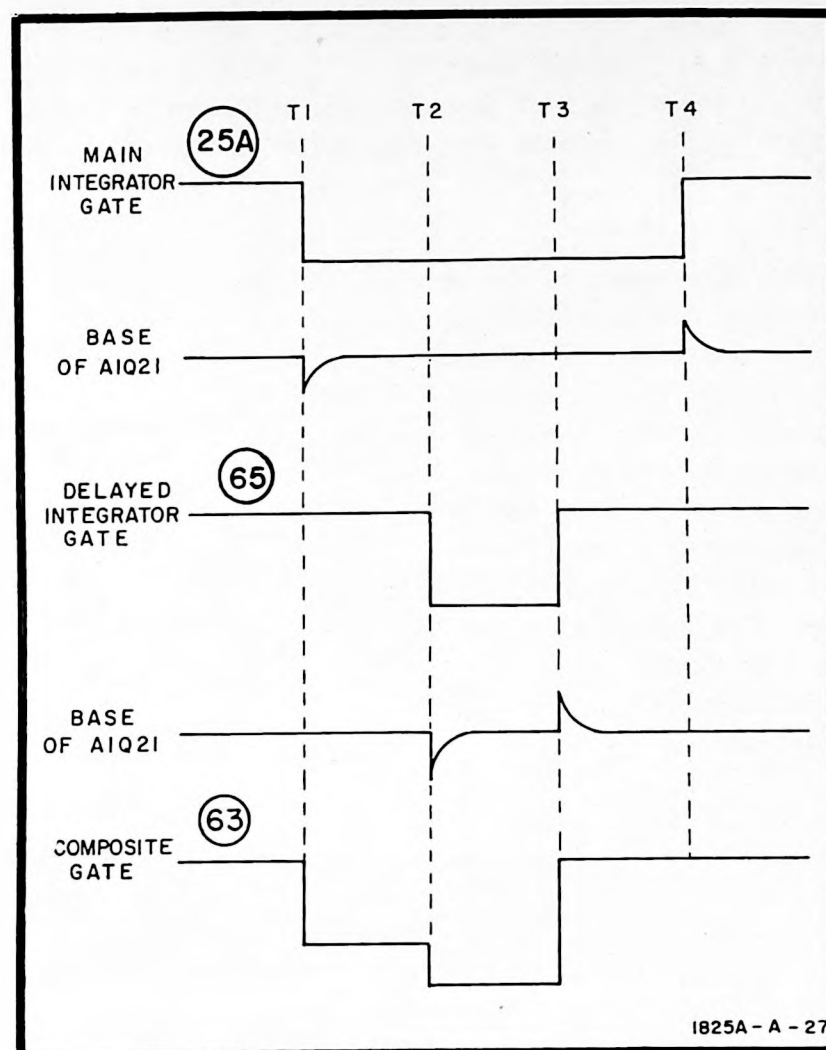
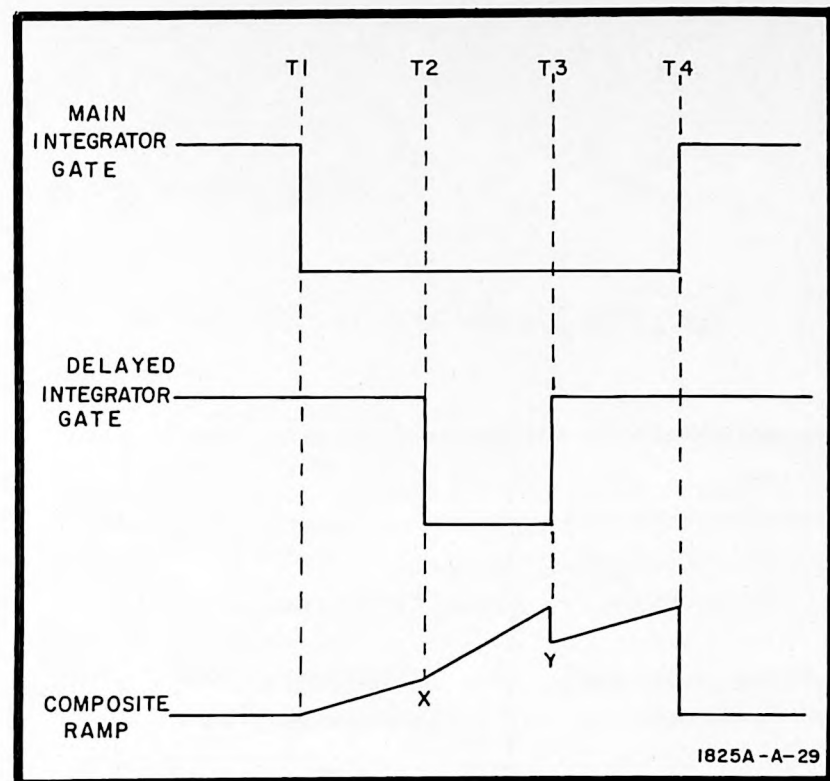

Figure 4-3. Sequence of Events, Mixed Mode Gate
Figure 4-4. Sequence of Events, Mixed Mode Sweep Operation
4-178. In mixed mode, both A1Q19 and A1Q23 are activated by application of -12.6 volts on lines (64) and (65). The sequence of events for mixed mode is illustrated in figure 4-3. At time t_1 , the main integrator gate is applied via line (25A) to the base of A1Q19, enabling the Schmitt trigger. The leading edge of the main integrator gate pulse is differentiated in the emitter circuit of A1Q23 and applied to the base of A1Q21. Since both conditions for setting the Schmitt trigger are simultaneously applied, the Schmitt trigger changes states. The composite gate falls and the CRT turns on. Following time t_1 , the main ramp is compared with a selected voltage in the comparator. At time t_2 , the selected voltage and the main ramp coincide and the comparator output pulse initiates an output from the delayed integrator gate. The delayed integrator gate is applied on line (65) to the base of A1Q23. Since the Schmitt trigger is already set, the differentiated pulse on the base of A1Q21 has no effect, however the delayed integrator gate on line (65) turns A1Q24 off and A1Q25 on. This action increases the composite gate and the brightness (intensification) of the CRT. At time t_3 , the delayed integrator gate terminates. The trailing edge is differentiated in the emitter circuit of A1Q33 and applied to the base of A1Q21. The Schmitt trigger resets, terminating the composite gate and turning the CRT off. The sequence of events between t_3 and t_4 continue to take place but, because the CRT is turned off, the events are not displayed.
4-201. This discussion can be followed on schematics 2, 4, 5, and 6. The sequence of events is illustrated in figure 4-4.
4-204. At time t_2 , the coincident pulse from the comparator triggers the delayed integrator gate which unclamps the delayed integrator. At this time, the reference voltage for the delayed integrator is point X (figure 4-4) on the main ramp. Therefore the delayed ramp starts rising from that point.
4-205. At time t_3 , the delayed sweep terminates but can fall only to the delayed reference point which, at this time, is point Y on the main ramp (figure 4-4). The events between t_3 and t_4 continue but, because the oscilloscope CRT turns off at the termination of the delayed integrator gate (figure 4-3 and paragraph 4-178) they are not displayed.